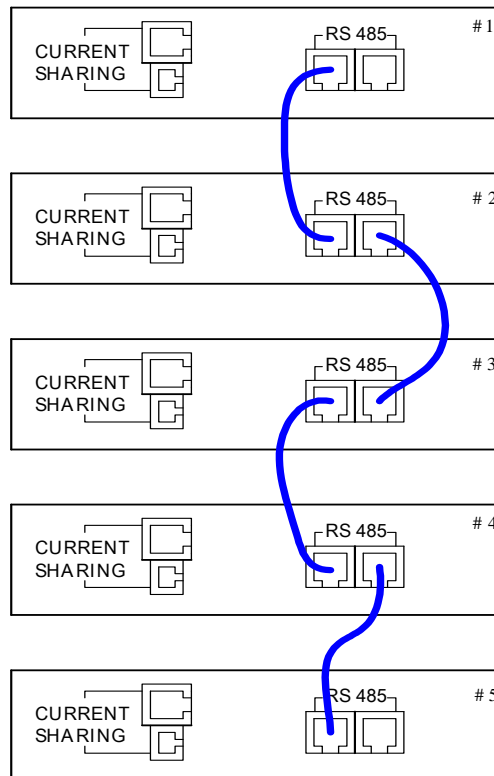
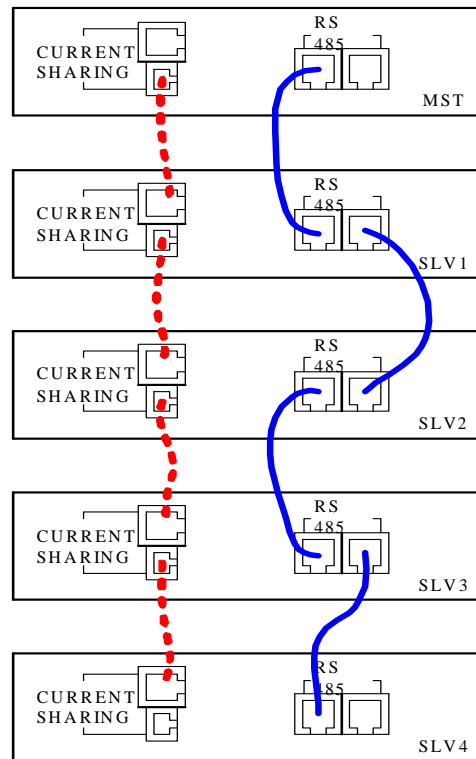

Figure 3-30
Figure 3-31
1. To operate the Power Supply in series, connect the RS-485 connectors on the rear panel as Figure 3-30 shows.
2. To operate the Power Supply in parallel, besides connecting the RS-485 connectors on the rear panel, the **CURRENT SHARING** connector has to be connected as well. See Figure 3-31.
1. Each DC Power Supply has two RS485 interface female connectors. They need to be connected either in series or parallel operation. There is no difference between left and right; just connect one after another as shown in Figure 3-30 or Figure 3-31.
2. Each DC Power Supply has two CURRENT SHARING connecting terminals in different outlines. Connect the output terminal of the first Power Supply to the input terminal of the second Power Supply and so forth as shown in Figure 3-31 in the dotted line. Be sure to use the CURRENT SHARING communication cable provided by QuadTech, Inc.
Connect the cables on the rear panel as Figure 3-30 shows when setting to SERIES, and as Figure 3-31 shows on the rear panel when setting to PARALLEL.